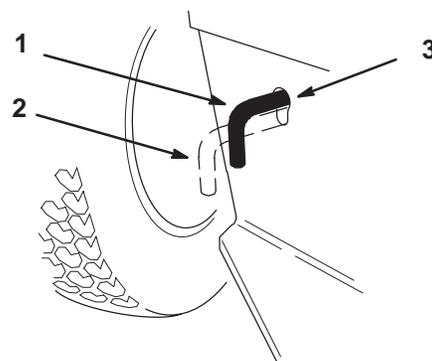

Figure 18
- Move the drive control rod to the push position. This disengages the drive system and allows the wheels to turn freely (Fig. 18).
- Move the drive control rod to the operate position (Fig. 18).